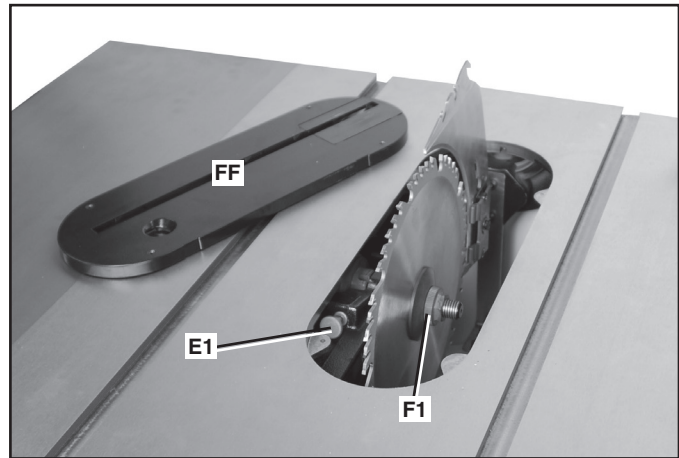

FIG. 52
1. Remove the throat plate (FF) Fig. 52, and raise the saw blade to its maximum height.
2. Push and hold red arbor lock button (E1) Fig. 52. Use included arbor wrench to remove the blade retaining nut (F1). Remove old blade.